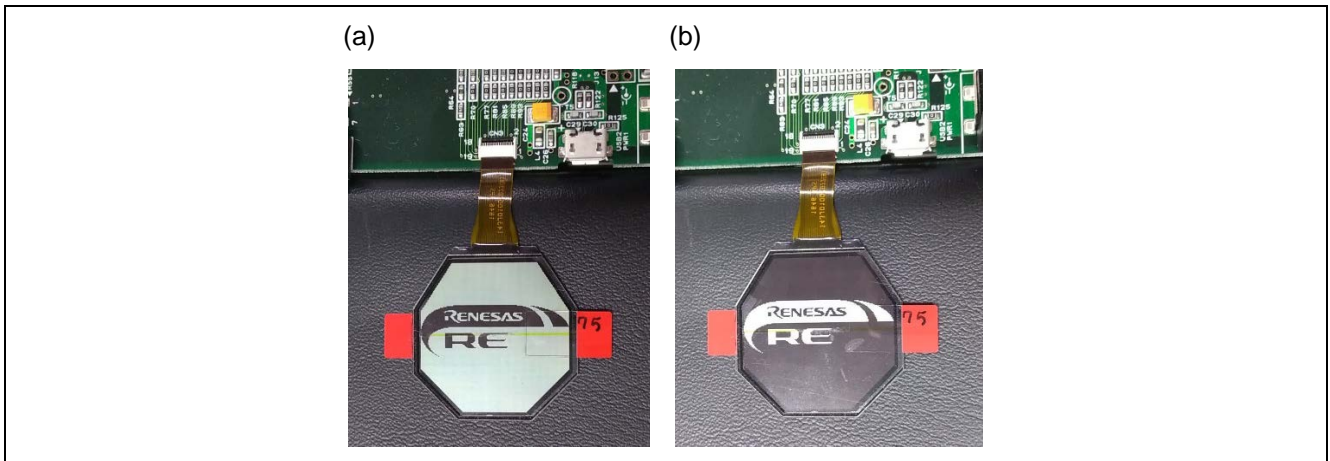

Figure 3-1 (a)Normal image display (b)Reversed image display
2. Output 176X176 bit image to the parallel MIP LCD panel (Figure 3-1(a))
4. Output black-and-white inverted image of image used in Step 2 to parallel MIP LCD panel (Figure 3-1(b))